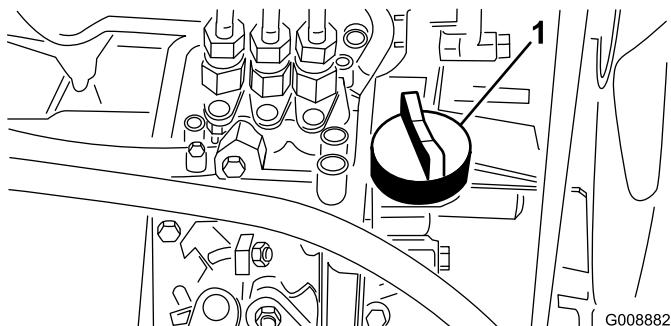

Figure 33
4. If the oil level is low, remove the oil fill cap (Figure 33) and gradually add small quantities of oil, checking the level frequently, until the level reaches the Full mark on the dipstick.